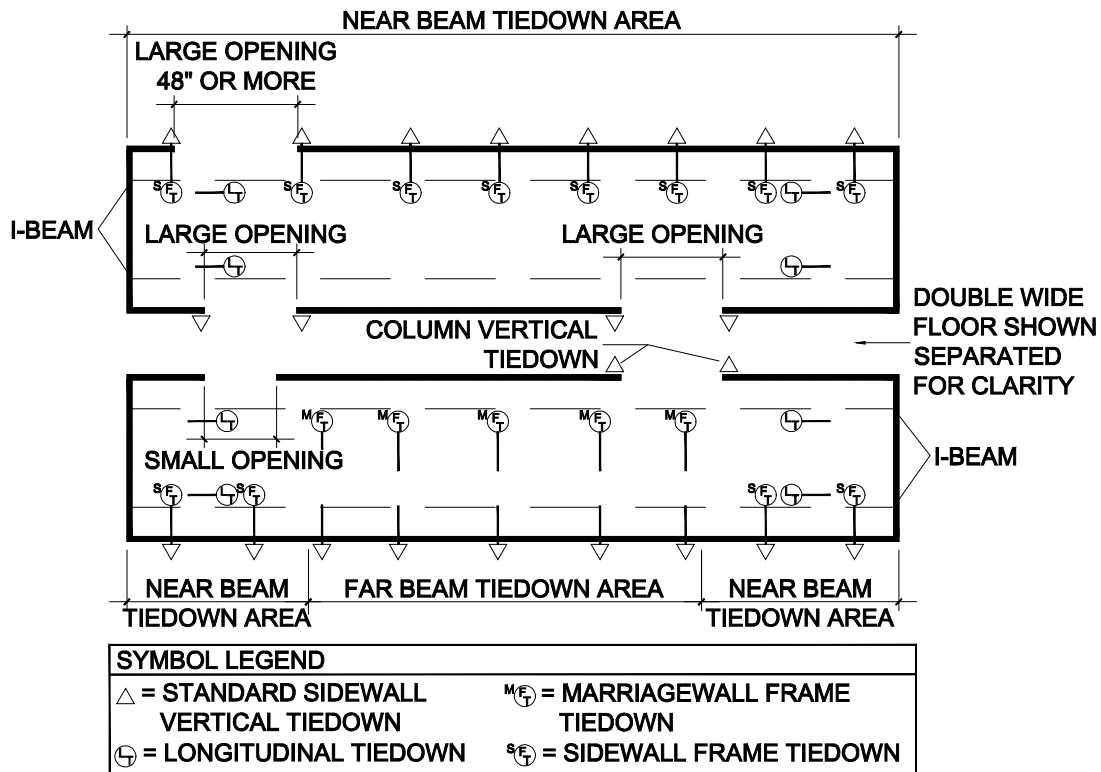

Figure 52. Typical anchor locations for a double section home in Wind Zones II or III
As each anchor location is determined, mark it on the sketch, noting important dimensions such as spacing between anchors. When complete, this will be the home's tie down plan **Figure 51** and **Figure 52**.
**Figure 51** and **Figure 52** illustrate typical anchor locations for a double section home in Wind Zone I and Wind Zones II and III respectively.